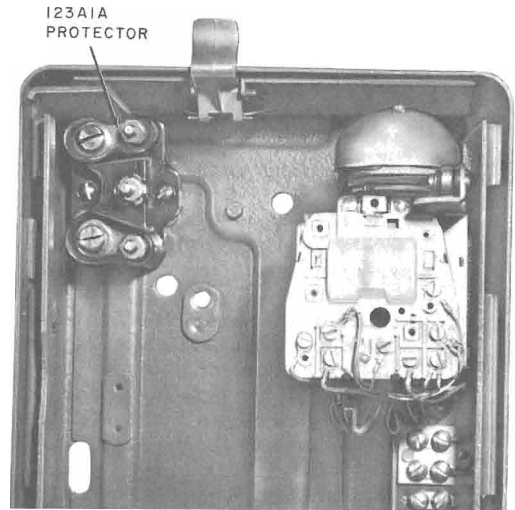

Fig. 8—Housing and Mounting Plate Assembly
- 2.28** A 123A1A protector can be installed inside a 1E-type set as shown in Fig. 8 using two